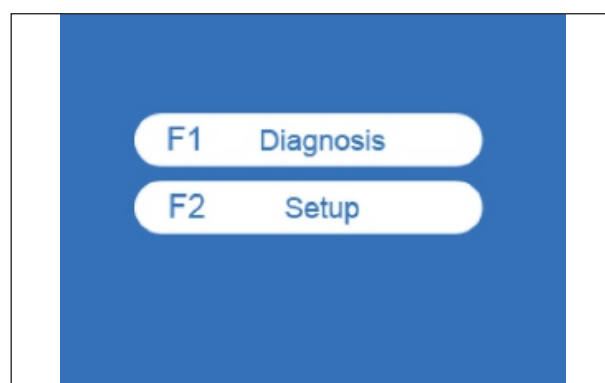

Fig. 7.22
- In the Setup menu, Language system info and Data and time can be set and read. (Fig. 7.22)